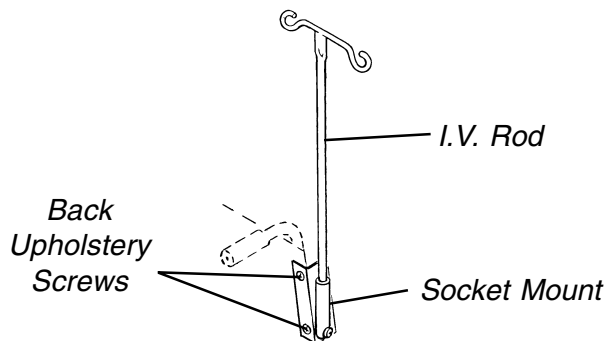

**FIGURE 1 - INSTALLING THE AMPUTEE ATTACHMENT**
**INSTALLING THE AMPUTEE ATTACHMENT (FIGURE 1)**